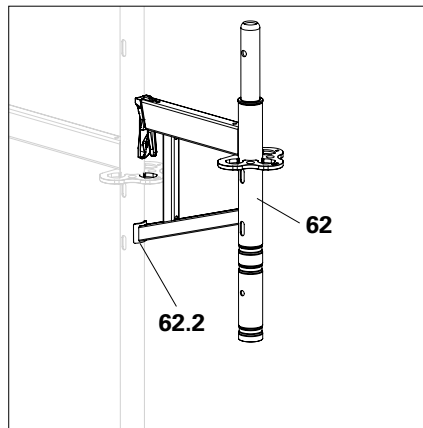

Fig. A6.03
1. Attach Console Bracket ECM 33 (**62**) to rosette. The formwork half (**62.2**) must rest against the vertical tube. (Fig. A6.03)